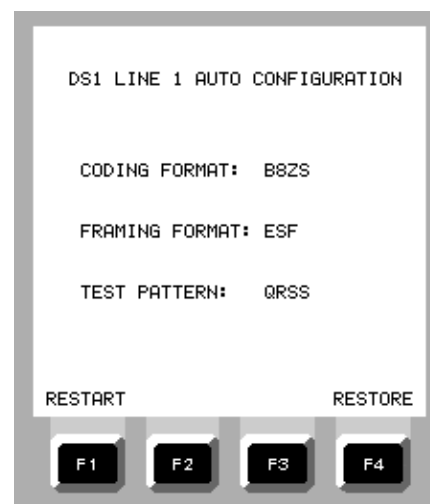

Figure 2-23. DS1 AUTOCONFIGURATION
- b. AUTO CONFIGURATION - Initiates automatic sensing of signal coding and framing formats, and presence of a recognizable test pattern (Figure 2-23).